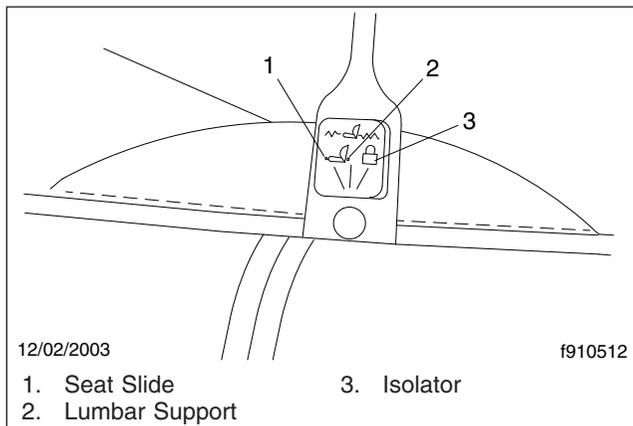

Fig. 3.4, Seat Slide and Isolator Lever
1. Seat Slide (fore-and-aft): When this adjustment is made, the entire seat moves forward or backward on its track. See Fig. 3.4 for a description of the seat slide and isolator lever.
2. Isolator: This feature (also referred to as backslap isolator or Chugger-Snubber®) reduces the amount of road shock by isolating the occupant from the motion of the vehicle, and allowing the upper seat to move in a simple pendulum motion. Whenever the isolator is not desired, it can be locked out. See Fig. 3.4.